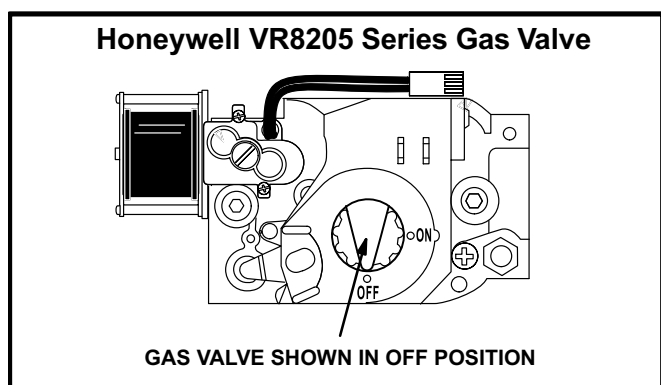

Figure 2
- 4 - Turn the gas valve knob to the ON position. Refer to figure 2.